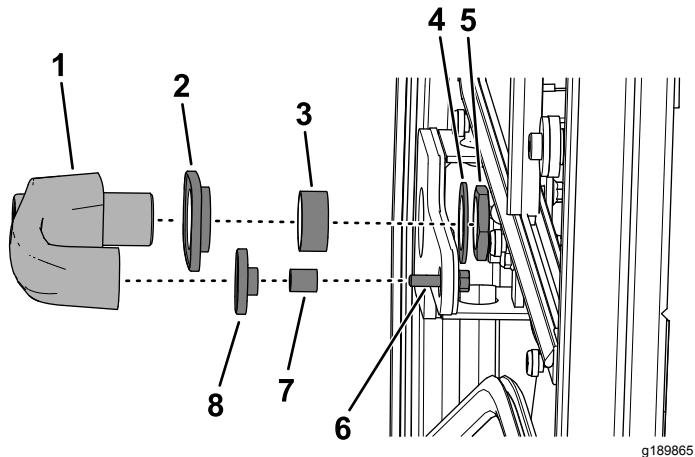

Figure 2
3. Remove the mounting nut, washer, flange-head screw (6 x 25 mm), 2 spacers, and 2 grommets from the door handle, and remove the door handle (Figure 2).